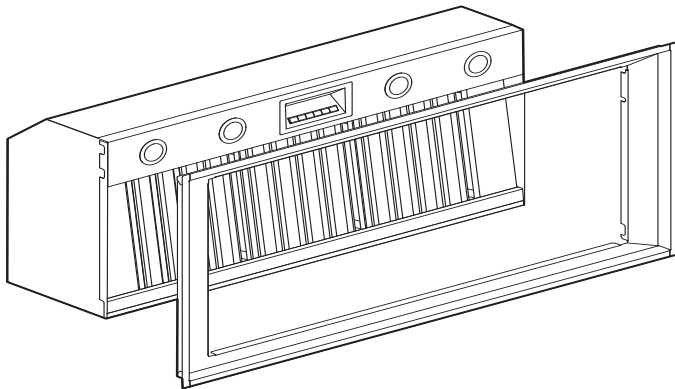

Figure 33: Liner Installation
- Slide the liner onto the hood (Figure 33).